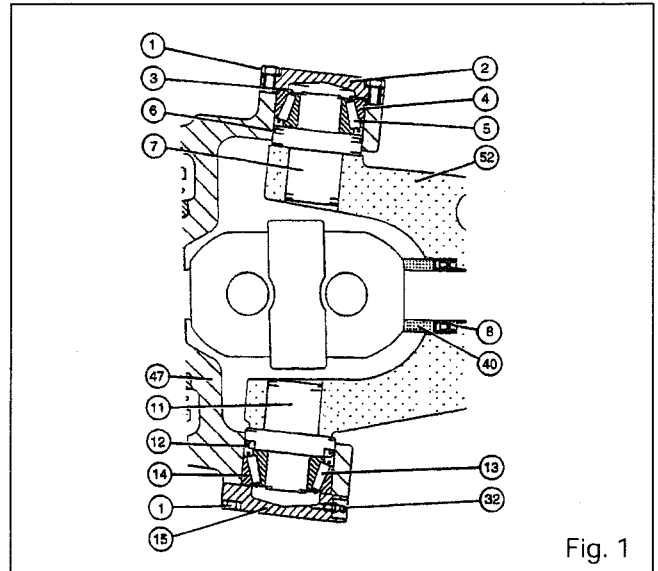

Fig. 1
Removing swivel housings (Figures 1 and 2)
8. If necessary, remove the seals (8) and O-rings (40) (Fig. 1).